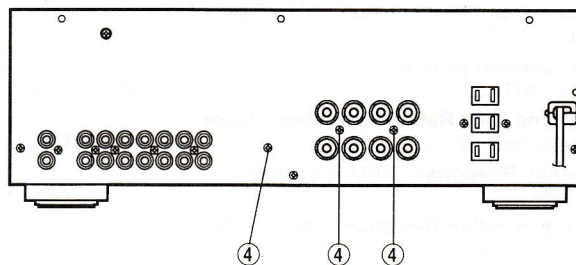

Fig. 2
3. Checking and Parts Replacement of P.C.B. MAIN (1)
- Remove 3 screws (④) fixing the Speaker terminal and Heat Sink in Fig. 2.